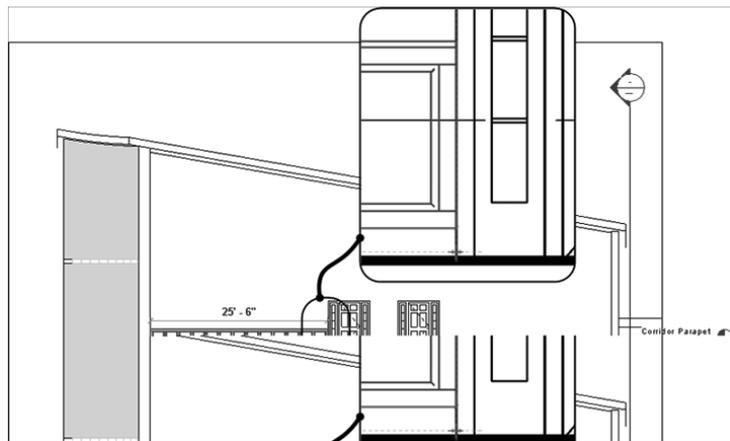

FIGURE 10.76: Adding the line-based, raised-panel family
16. On the Modify-Place Component tab, click the Place On Work Plane button, and pick the base point shown in Figure 10.76.